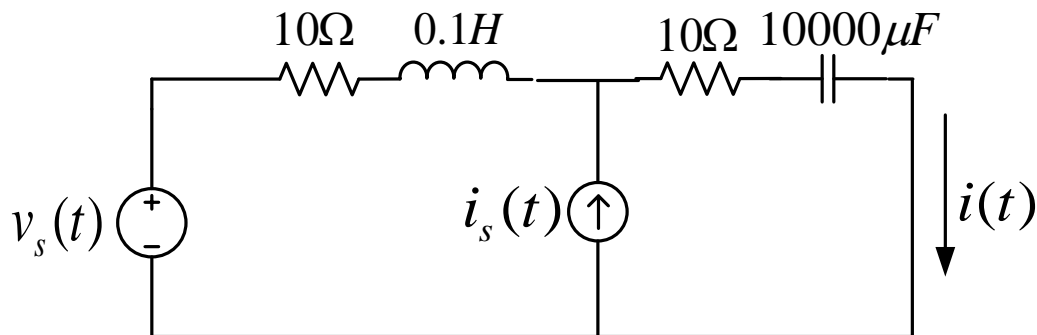

Fig. Q2 (a)
- (b) In the circuit shown in Figure Q2(b), two loads A and B are connected to the source. The cable connecting the power supply to the load is modeled as series R and L of values $R = 0.1\Omega$, $L = 0.1 \text{ mH}$ as shown in the figure.